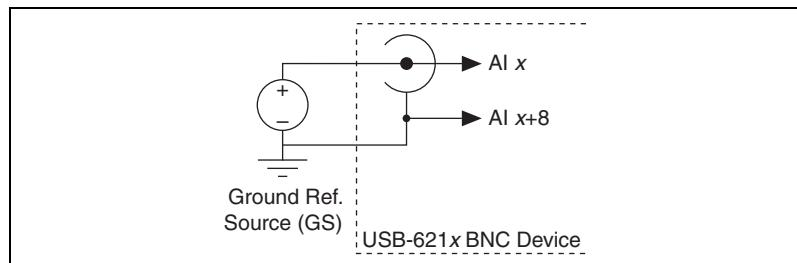

Figure A-17. Single-Ended Channels
- **Single-Ended Mode**—For each BNC connector that you use for two single-ended channels, set the source type switch to the GS position. This setting disconnects the built-in ground reference resistor from the negative terminal of the BNC connector, allowing the connector to be used as a single-ended channel, as shown in Figure A-17.